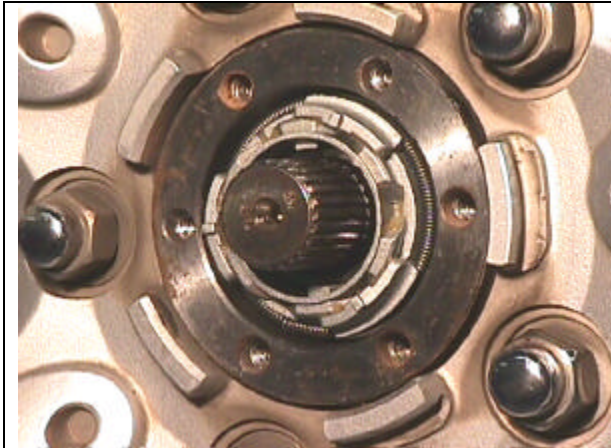

Figure 5
5. For the cam type automatic hublock, remove the camming assembly, and spindle nut as shown in Figures 5, and 6. **Do not reuse with new auto hublock.**